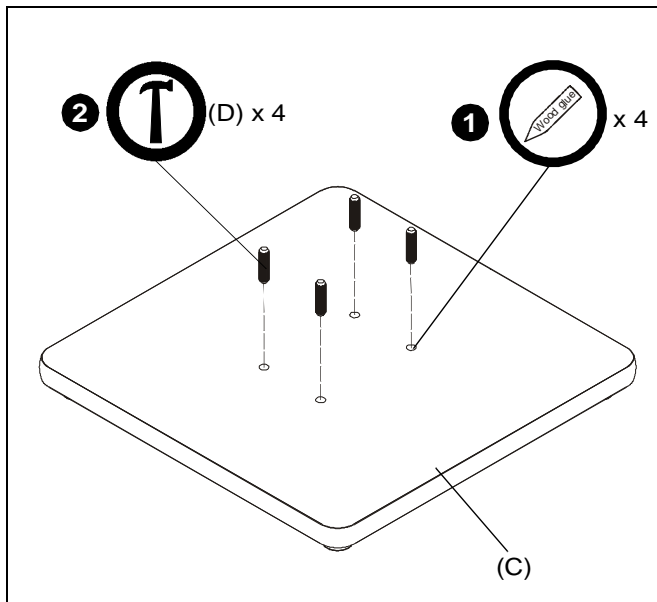

Figure 1
1. Fill the four holes on bottom plate (C) about half full of wood glue. (See Figure 1)
2. Insert a dowel (D) into each of four holes using a hammer to tap gently until the dowel reaches the bottom of the hole. (See Figure 1)